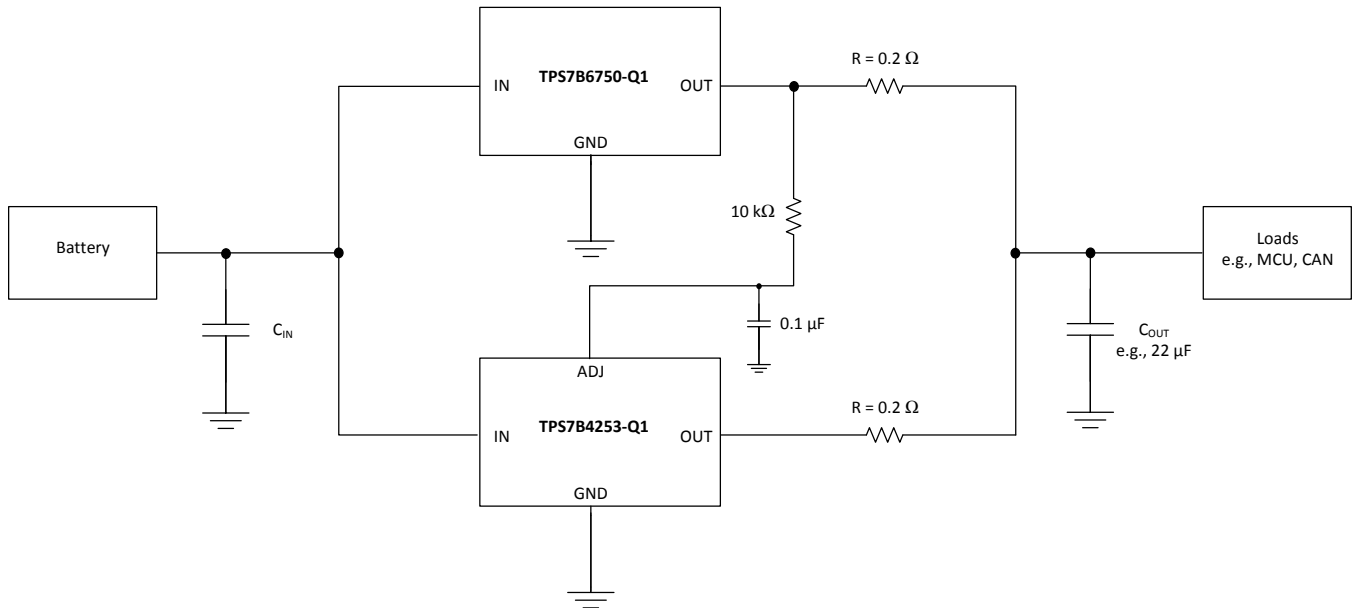

Figure 2. LDO Parallel Topology With TPS7B6750-Q1 and TPS7B4253-Q1
Figure 2 shows an example of parallel topology with the TPS7B6750-Q1 and TPS7B4253-Q1. TPS7B6750-Q1 is 450-mA low quiescent current (IQ) LDO, and TPS7B4253-Q1 is a 300-mA voltage-tracking LDO. This topology has the ability to support load current up to 600 mA.